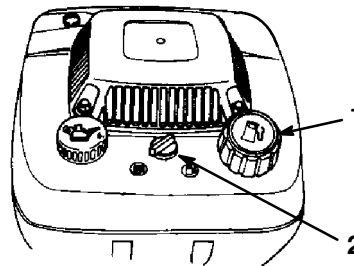

Figure 6
1. Clean around the fuel tank cap (Fig. 6).
2. Open the fuel valve (Fig. 6).